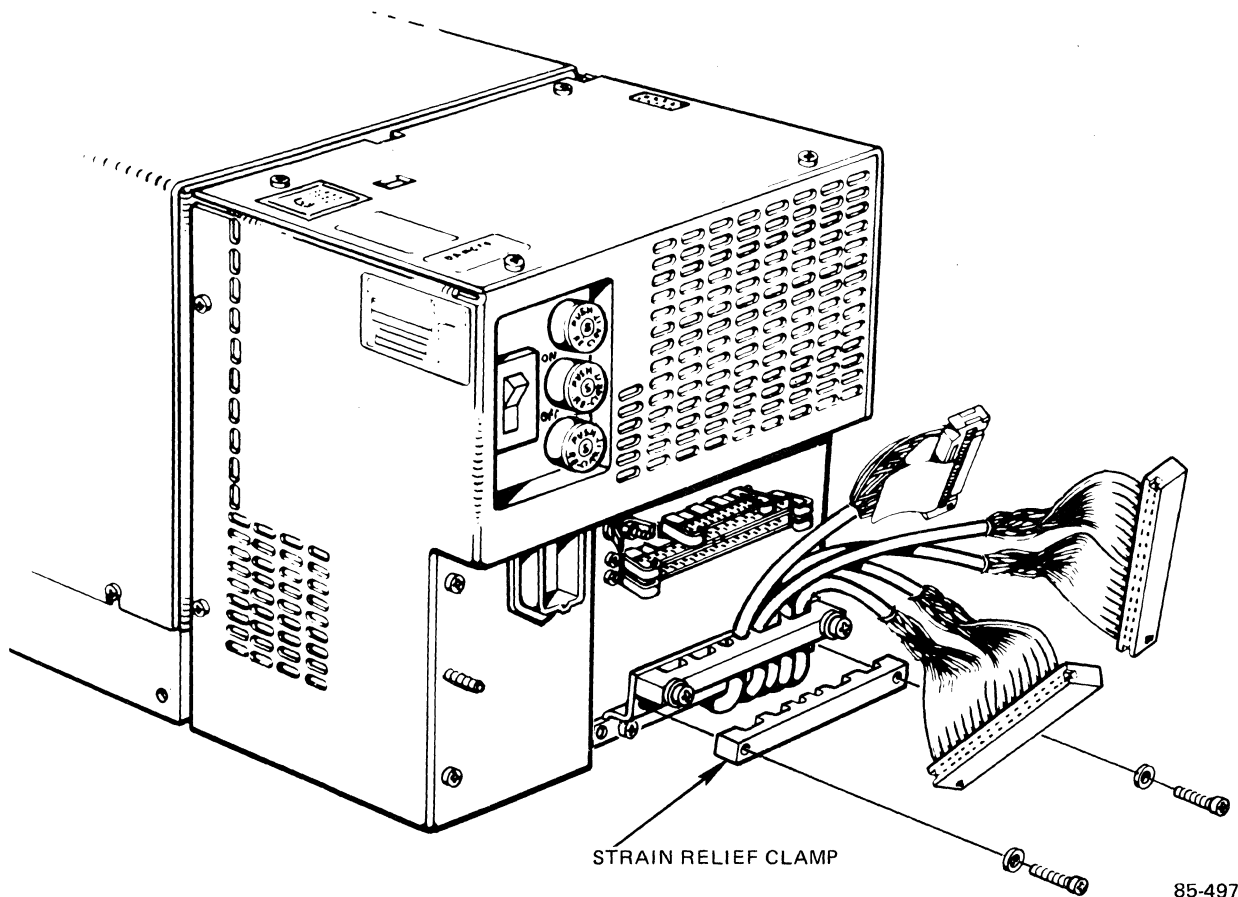

Figure 2-18. Strain Relief Clamp Installation
10. Locate the strain relief clamp and install it to the bottom of the cable clamp bracket with the two screws and washers provided as shown in Figure 2-18. Ensure that the cables are seated correctly in the slots.